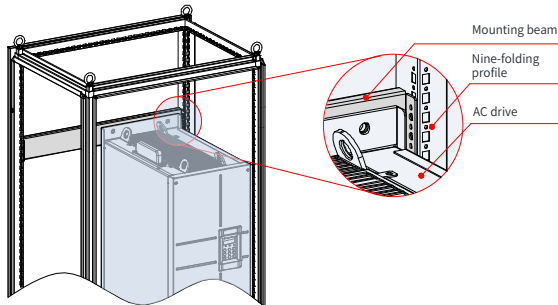

Figure 3-16 3D view of a 200-450 kW cabinet
- 2) When an AC drive of CS710-4T200G(-L) to CS710-4T450G(-L) is mounted in a 600-mm deep nine-folding AL cabinet, the fixing beam must be folded inwards to leave more space for the AC drive, as shown in Figure 3-16. This is not required when the AC drive is mounted in an 800-mm or deeper cabinet.